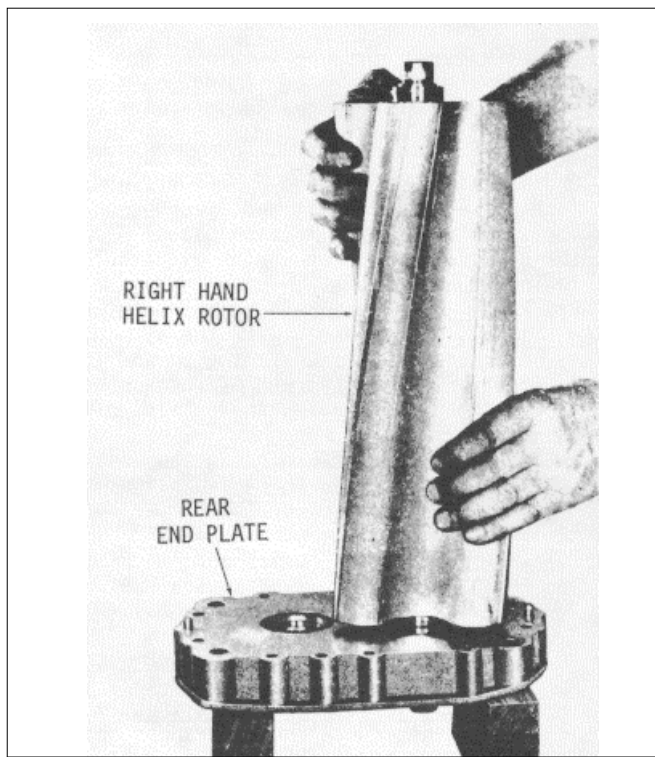

Fig. 16
- (c) Insert the blower rotors with oil seal pilots straight into the blower housing with the right-hand helix rotor at the top, flange, side of the housing. Then, push the rotor shafts and oil seal pilots on through the oil seal in the front end plate as shown in Fig. 16.
- (3) Attach the blower rear end plate to the blower housing as follows:
- (b) Support the rear end plate on two wood blocks, approximately 4" high, with the inner face of the end plate facing up and the TOP end of the end plate facing to the right (Fig. 16).
- (e) With the omitted serration in the splines of the shaft facing toward the top side of the end plate, start the end of the rotor shaft into the right-hand shaft opening in the end plate so that the gap portion of the seal ring is started into the ring collar (Fig. 16). Continue to lower the rotor and very carefully apply pressure to the seal ring approximately 180° from the gap while gently working the seal ring into the collar until the rotor contacts the end plate.
- (2) Determine the rotation of the blower being assembled, then install the blower housing over the rotors as follows:
- (3) Install the blower front end plate on the rotors and housing as outlined below: